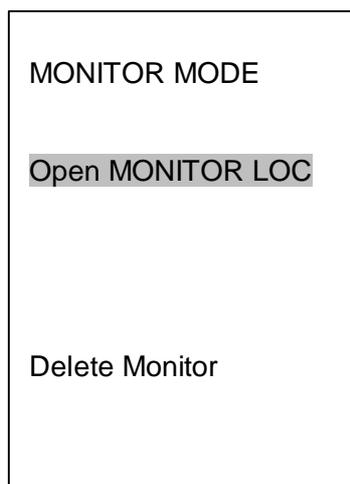

Figure 26: Monitor Mode Menu
- Use *LOCALITY MANAGEMENT* from the Main Menu to open the *Monitor Mode Menu* (Figure 26).